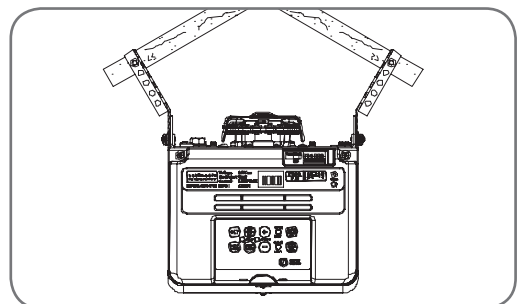

fig 11
- Secure the perforated angle (not supplied) to the ceiling above where powerhead's mounting holes will be once fully installed. A representative mounting is shown (**Fig. 11**)